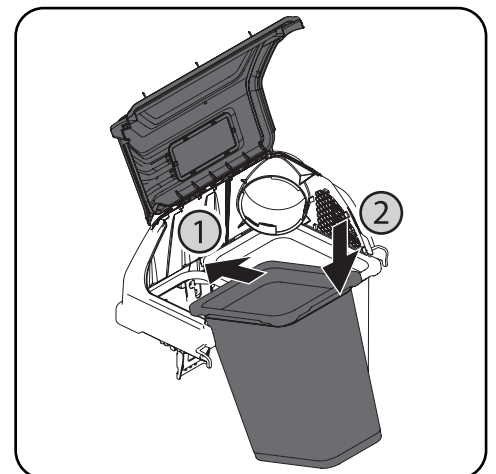

Figure 4-13
7. Install both bag assemblies onto the bag support brackets by inserting the front edge in first (1), and then setting the back edge down until it fits into the assembly (2) as shown in Figure 4-13.